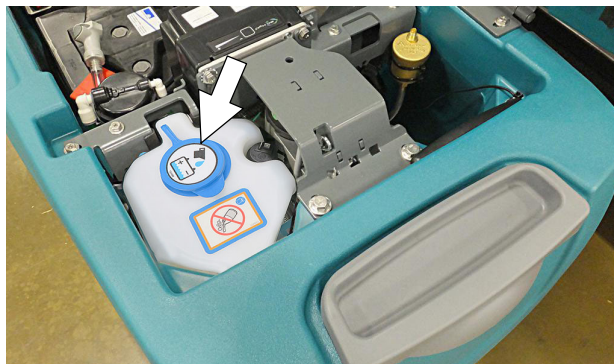

FIG. 22
1. Lift the recovery tank to access the automatic battery watering tank (Figure 22). Drain recovery tank before lifting tank.